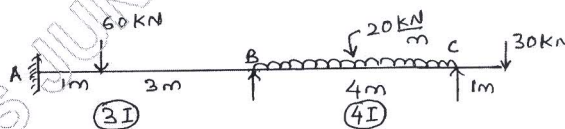

Fig.Q7
- 7 Using Clapeyron's theorem of three-moments analyze the beam shown in Fig.Q7. Draw bending moment diagram. (20 Marks)